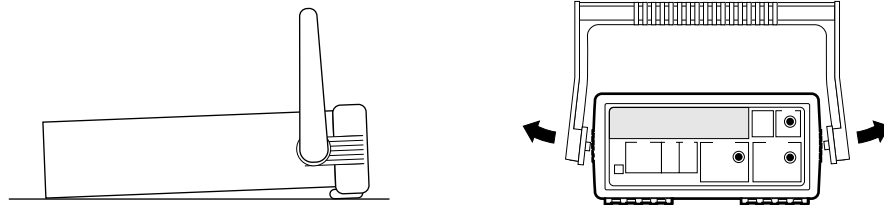

Figure 3-3. Handle Removal
- 2 Remove the bail handle (MP7) by rotating it to the vertical position and pull the ends outward as shown in Figure 3-3.**